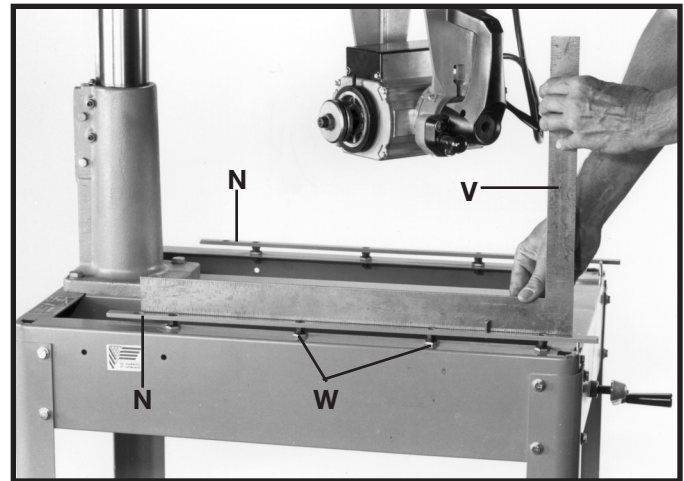

Fig. 24
9. Place a straight edge (V) Fig. 24, on table mounting brackets (N) as shown and adjust two center positions (W) if necessary in the same manner on both brackets.